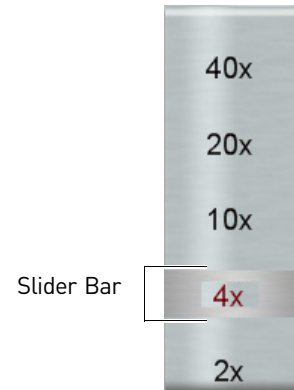

Figure 22 Objective control.
3. Change the objective as needed by tapping or clicking the label corresponding to the chosen objective. The selected objective is red (see Figure 22).